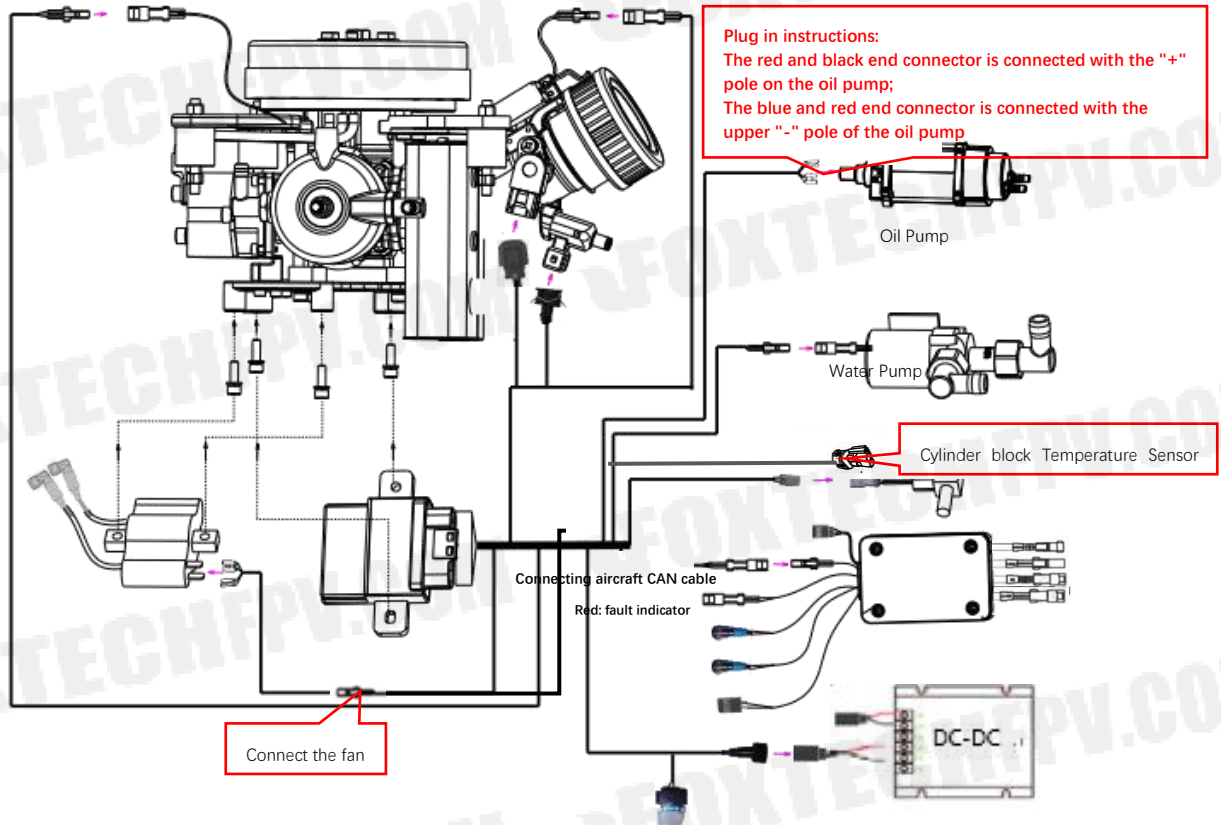
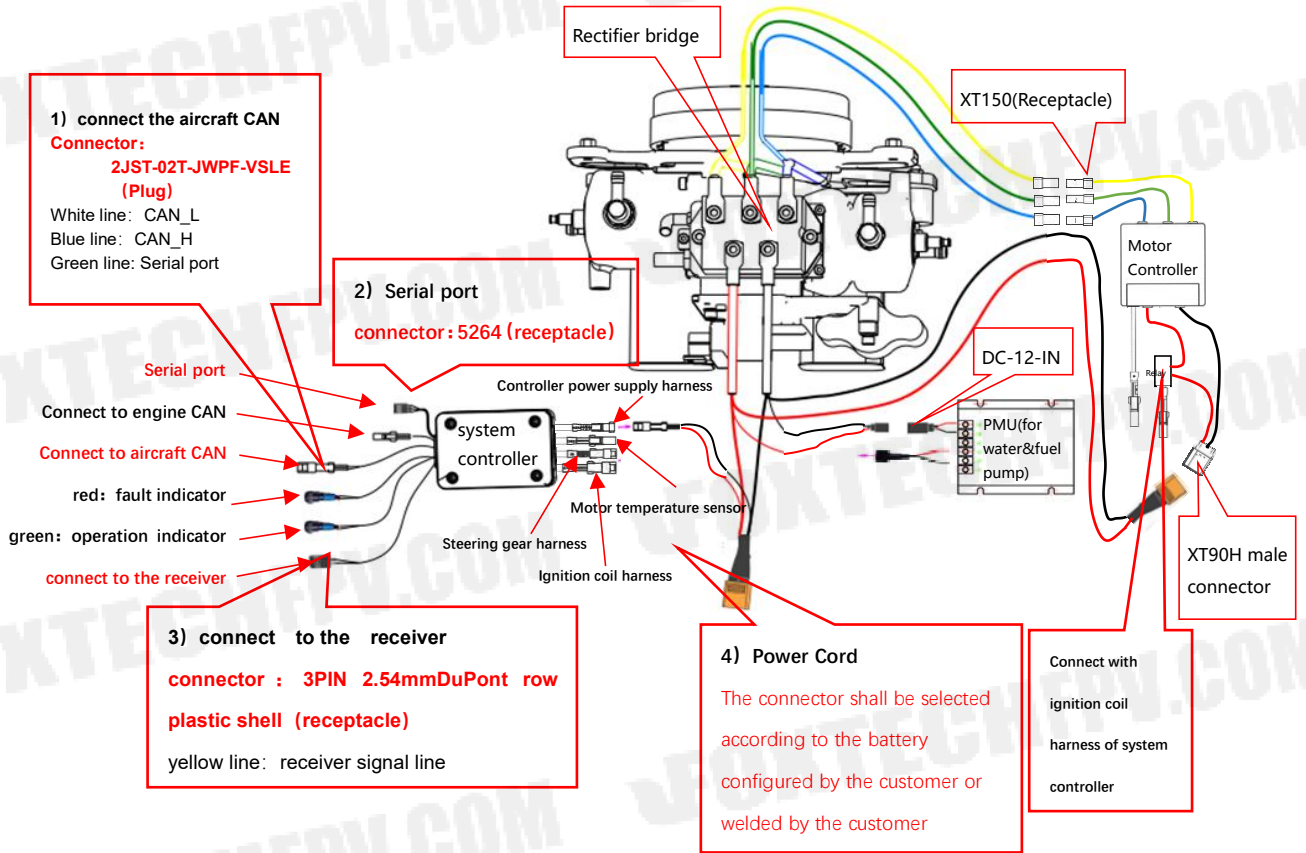

Fig. 1
Fig.2
Please wire in strict accordance with Fig. 1 and Fig. 2. If the connection is wrong, the system components may be damaged.
1.1 The wiring between engine harness and electrical parts is shown in Figure 1:
The wiring of electrical wiring harness and electrical parts is shown in Figure 2: